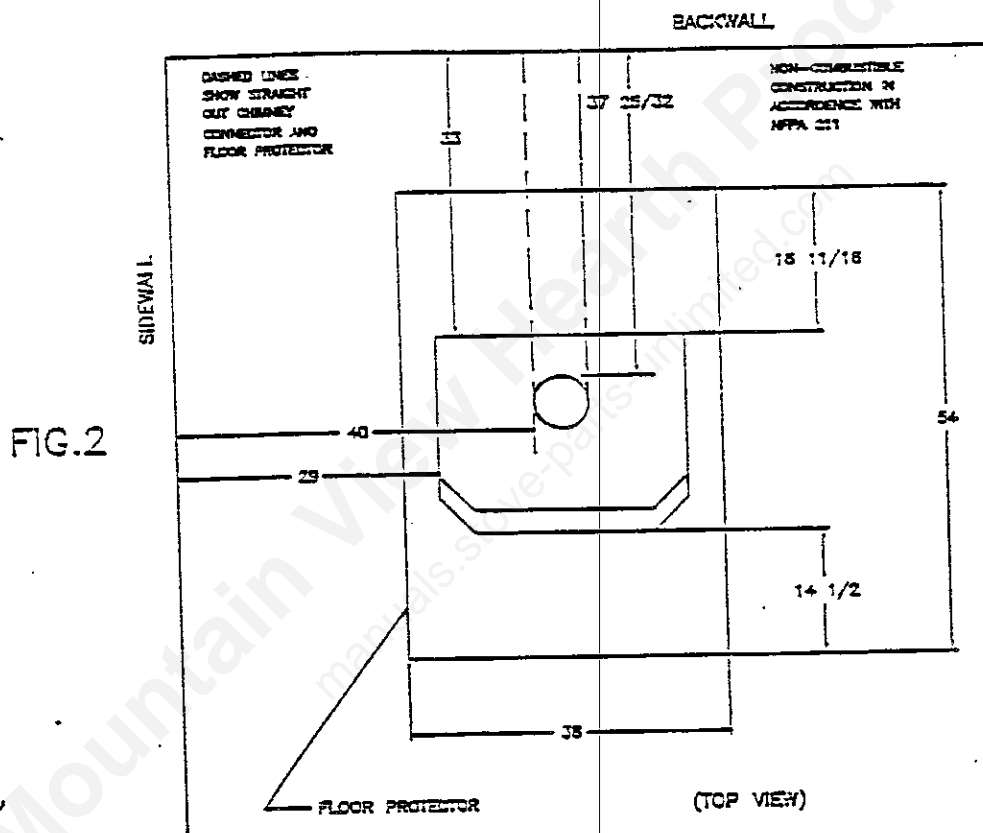

FIG. 2
Floor Protector as specified in Figures 2, 3, & 4.
listed floor protector. Have the floor protector extend 14-1/2" in front of the hearth extension, 1-3/4" to each side, 10-3/8" to the rear; underneath and 2" to each side of the chimney connector. (SEE FIG. 2).
3. Check Figures 2, 3, & 4. You should have at least the clearances shown from the heater and the connector pipe to combustible surfaces. If you have a solid brick or stone wall behind your heater, you can place the heater as close as you wish to the wall. If the wall is only faced with brick or stone, treat it as a combustible wall.